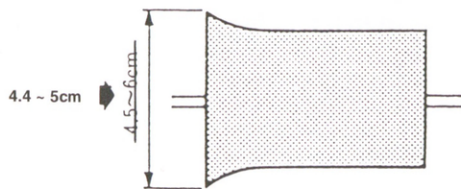

Fig. 7-17
- 2-2) While observing the RF output waveform, slowly turn the K2 guide adjusting nut to lift or lower the guide, and make the RF output waveform input side as illustrated (Fig. 7-17) (by allowing 5 to 10 seconds to pass at each 30° turn for the waveform to settle.)